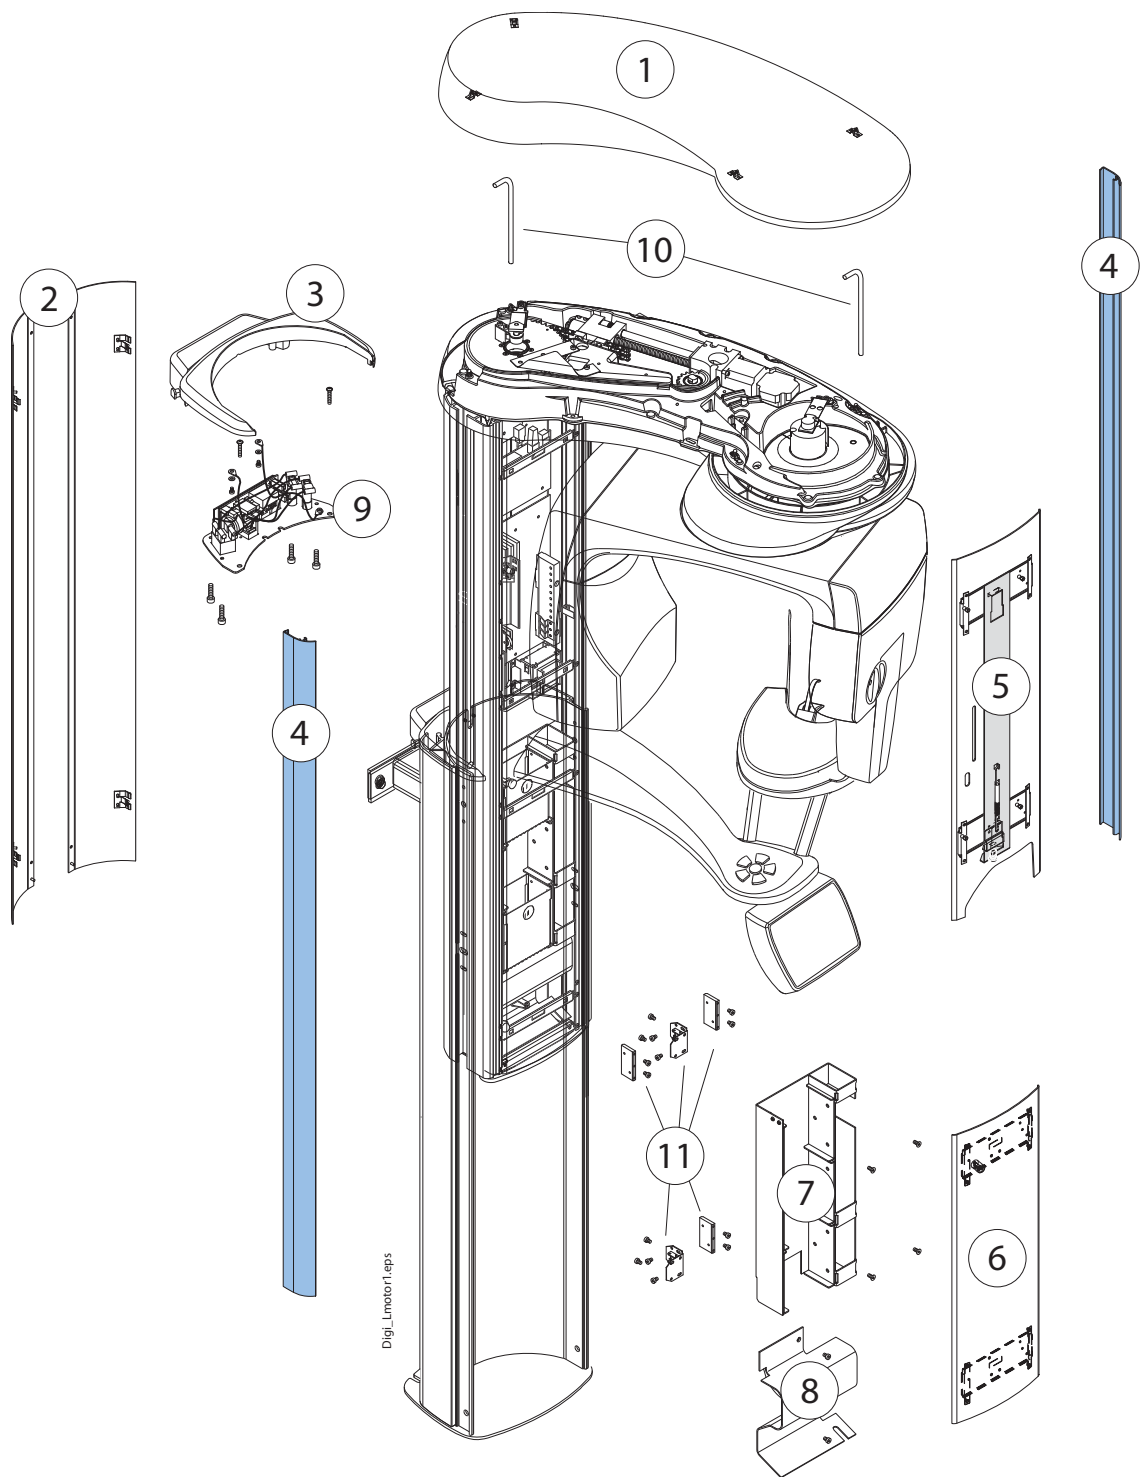

Figure 31
- 2) Remove the shoulder arm cover (Fig. 31, 1) (see section 5.6 "Shoulder arm covers" on page E-84). Remove the telescopic column rear cover plates (Fig. 31, 2) according to the instructions given in section 2.2 "Removing the telescopic column rear cover plates" on page G-10.
- 3) Unscrew the four M4x16 DIN 912 attachment screws of the column top cover with the 3mm Allen key and remove the cover (Fig. 31, 3).
- 4) Detach the stationary column side covers (Fig. 31, 4).
- 5) Remove the telescopic column upper front panel (Fig. 31, 5) according to the instructions given in section 2.1 "Removing the telescopic column upper front panel" on page G-8.
- 6) Remove the telescopic column lower front panel by pulling it outwards (Fig. 31, 6). Unscrew the M4x8 DIN 7984 screws with the 2.5mm allen key and remove the panel mounting frames.
Remove the accessory cabinet as follows. Remove the accessory boxes. Detach the cabinet door from the its hinges. Unscrew the four attachment screws of the accessory cabinet base and remove the base (Fig. 31, 7). Unscrew the two M4x6 DIN 7984 attachment screws of the motor cover and remove the cover (Fig. 31, 8).
- 9) Detach the Input module from the telescopic column (Fig. 31, 9) according to the instruction given in section 6.3 "Input PCB" on page G-36. Disconnect the connectors from the Input PCB.
- 11) Lock the shoulder arm and the C-arm to the transportation position with the alignment pins as shown on the Fig. 31, 10.
- 12) Detach the hinges and the three mounting blocks from the column (Fig. 31, 11).